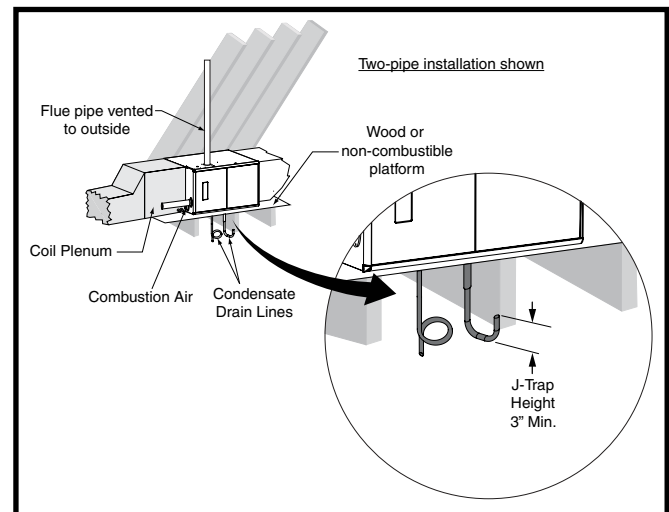
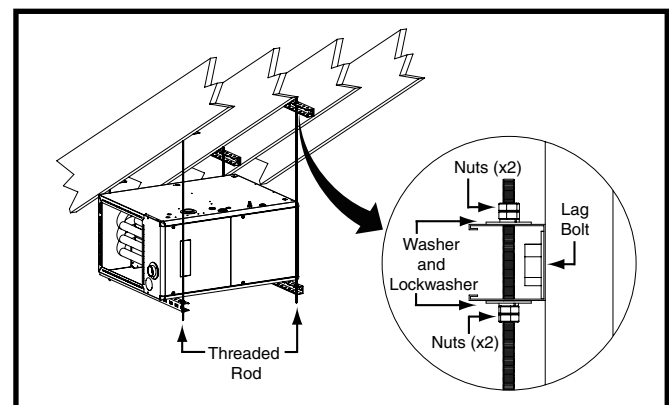

Figure 11. *SC Horizontal installation on a Platform
Figure 12. *SC Horizontally Suspended in Attic
For Installations where there is limited clearance for the J-Trap (such as an attic where it may be installed between ceiling joists), either side of the J-Trap can be shortened to a minimum of 3 Inches. See Figure 11 \(page 16\).
*SC & *SD series gas furnaces can be installed horizontally (Figure 11) in an attic, basement, crawl space or alcove. It can also be suspended from a ceiling in a basement or utility room in either a right to left airflow or left to right airflow as shown in Figure 12.
If installing the furnace in an attic, it is required that a drip pan be placed under the furnace. If the installation is on a combustible platform as shown in Figure 11, it is
If suspending the furnace from the ceiling, assemble a support frame (Figure 12) using slotted iron channel and full threaded rod. Fasten the frame together with nuts, washers, and lockwashers. Secure the support frame to the rafters with lag bolts. The furnace can also be suspended using steel straps around each end of the furnace. The straps should be attached to the furnace with sheet metal screws and to the rafters with bolts.